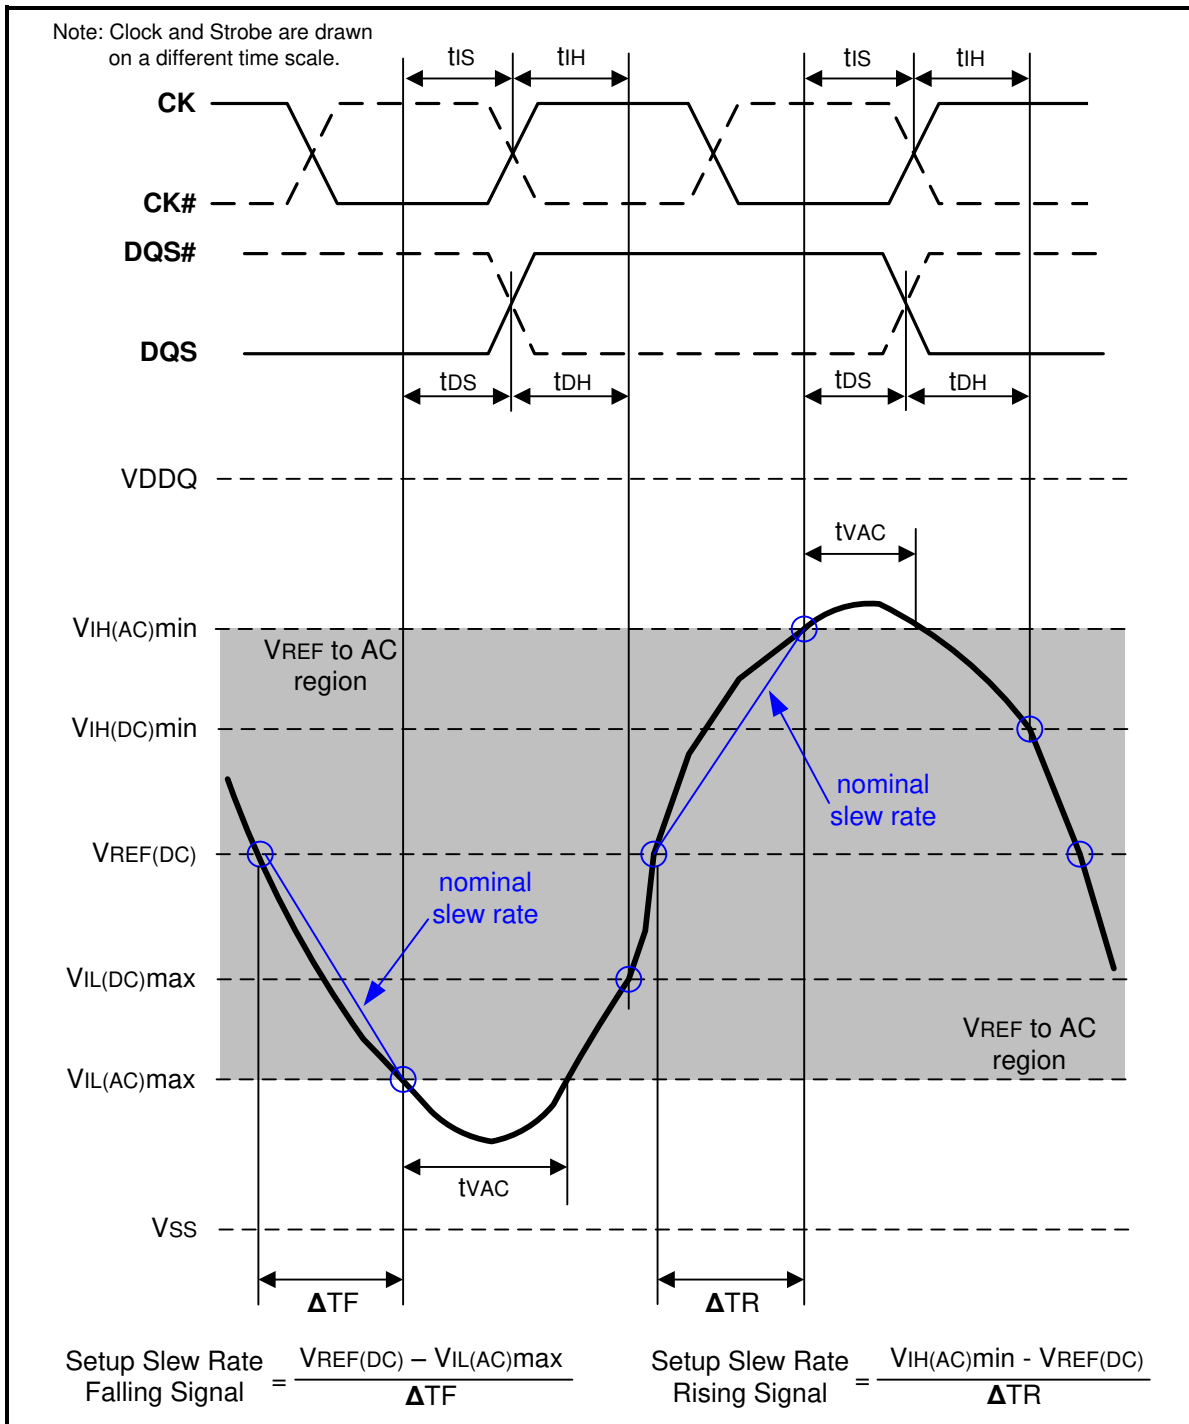
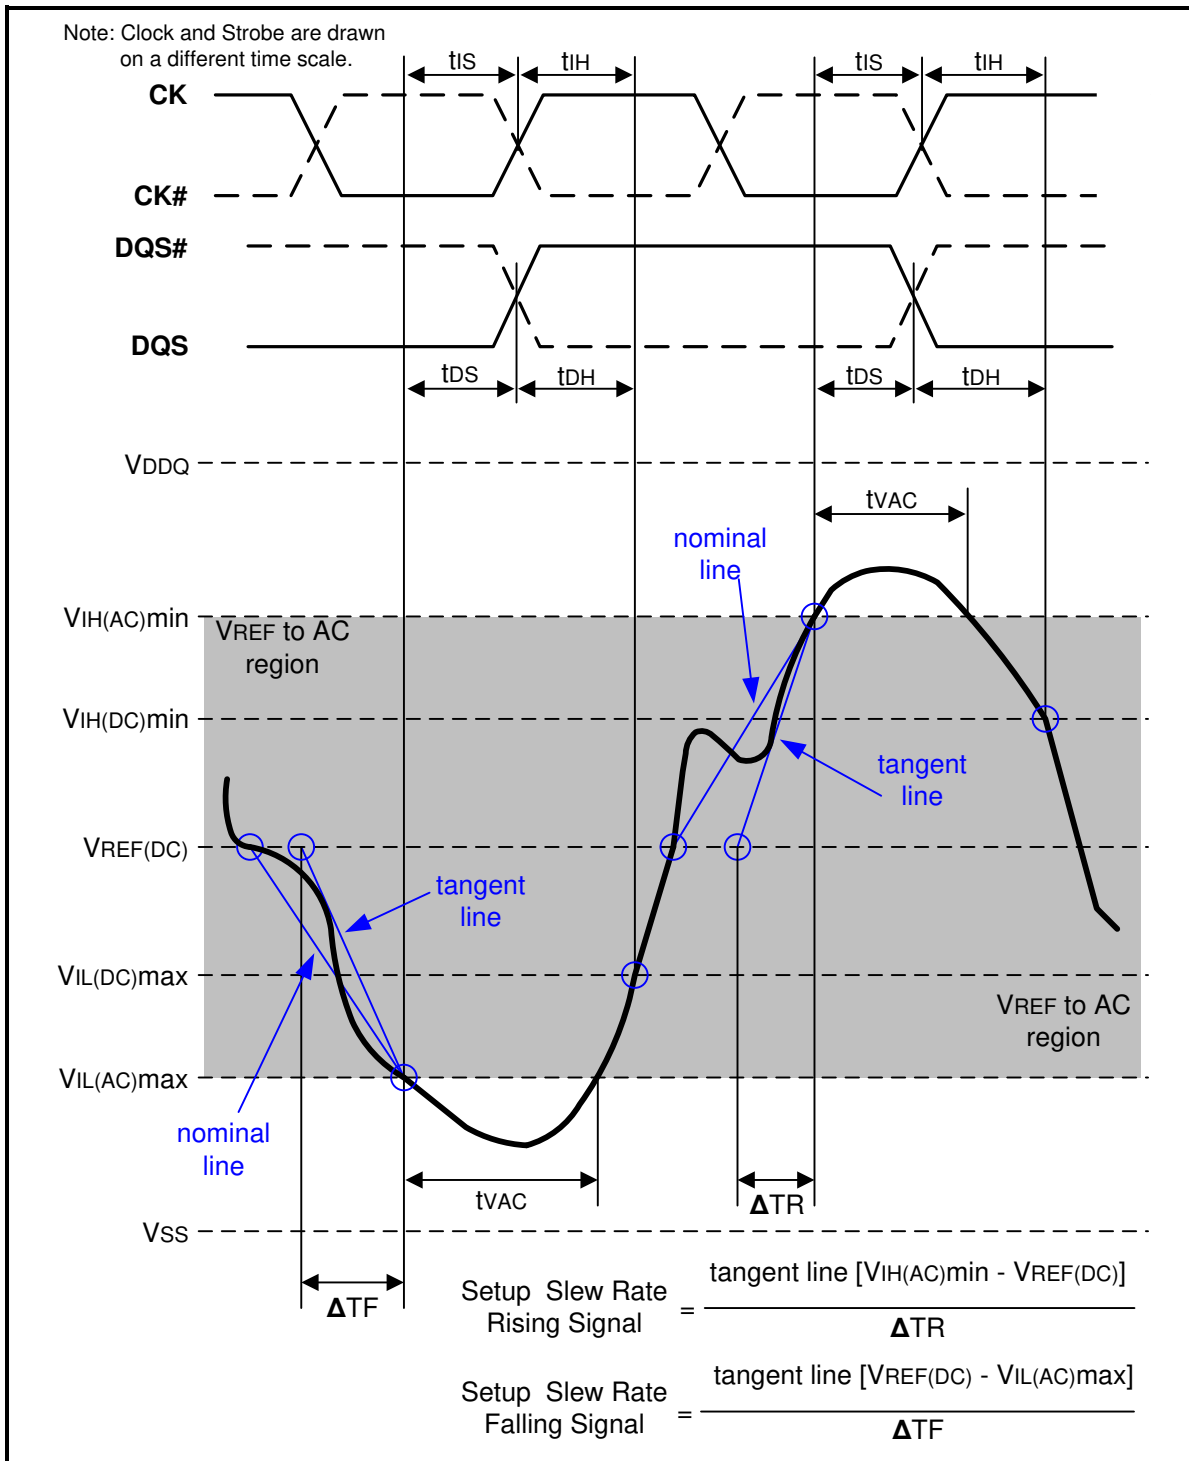

Figure 107 – Illustration of nominal slew rate and tvac for setup time tDS (for DQ with respect to strobe) and tIS (for ADD/CMD with respect to clock)
Figure 109 – Illustration of tangent line for setup time tds (for DQ with respect to strobe) and tis (for ADD/CMD with respect to clock)
Setup ( $t_{IS}$ ) nominal slew rate for a rising signal is defined as the slew rate between the last crossing of  $V_{REF(DC)}$  and the first crossing of  $V_{IH(AC)min}$ . Setup ( $t_{IS}$ ) nominal slew rate for a falling signal is defined as the slew rate between the last crossing of  $V_{REF(DC)}$  and the first crossing of  $V_{IL(AC)max}$ . If the actual signal is always earlier than the nominal slew rate line between shaded 'VREF(DC) to AC region', use nominal slew rate for derating value (see Figure 107). If the actual signal is later than the nominal slew rate line anywhere between shaded 'VREF(DC) to AC region', the slew rate of a tangent line to the actual signal from the AC level to DC level is used for derating value (see Figure 109).
Setup (tDS) nominal slew rate for a rising signal is defined as the slew rate between the last crossing of VREF(DC) and the first crossing of VIH(AC)min. Setup (tDS) nominal slew rate for a falling signal is defined as the slew rate between the last crossing of VREF(DC) and the first crossing of VIL(AC)max (see Figure 107). If the actual signal is always earlier than the nominal slew rate line between shaded 'VREF(DC) to AC region', use nominal slew rate for derating value. If the actual signal is later than the nominal slew rate line anywhere between shaded 'VREF(DC) to AC region', the slew rate of a tangent line to the actual signal from the AC level to DC level is used for derating value (see Figure 109).